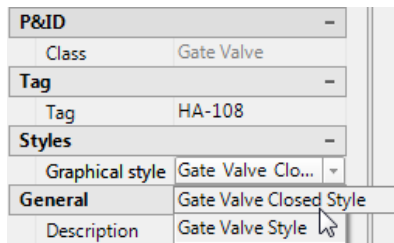
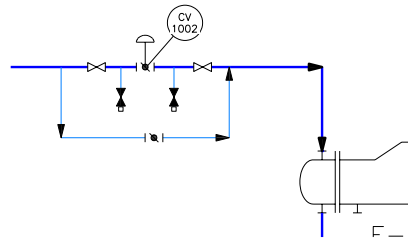

Figure 2-67 Selecting the **Gate Valve Closed Style** option from the **Graphical style** drop-down list
Figure 2-68 The graphical style of gate valves changed to the closed type
16. Select the **Gate Valve Closed Style** option from the **Graphical style** drop-down list of the **Styles** area, refer to Figure 2-67; the gate valve is closed, as shown in Figure 2-68.